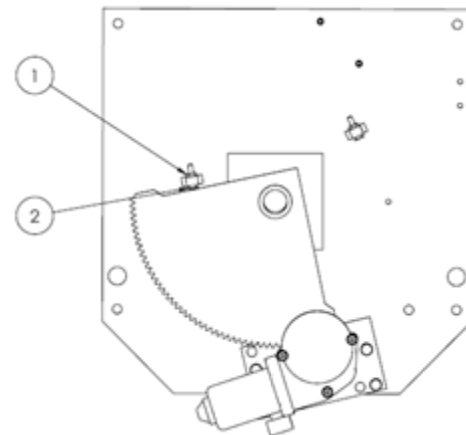

Figure 1.7
- b.) If you want the seat angled with respect to the dash, you will need to re-set the swivel gear stop; loosen the jam nut (#1 on Fig 1.7) on the #10-32 flat-head cap screw (#2 on Fig 1.7), thread the screw all the way into the Adjustable Swivel Gear Stop, and tighten the jam nut up against the back side.